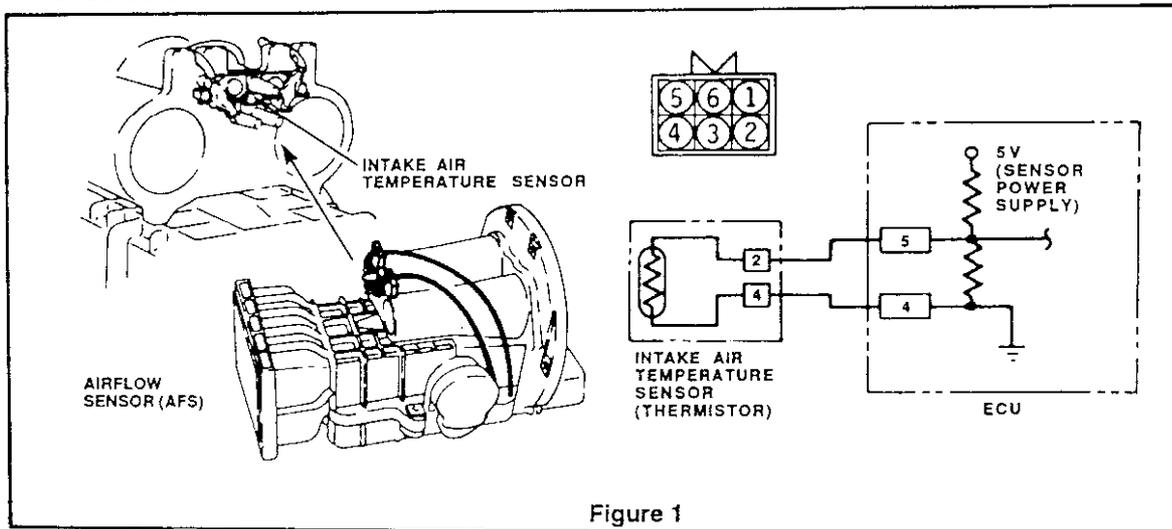

Figure 1
The barometric pressure sensor (BARO sensor) is an integral part of the Karman vortex sound-frequency airflow sensor, figure 1. It is used on all 1987 and later fuel-injected vehicles except Cordia and Tredia turbo models, which use a boost sensor and a pressure exchange solenoid. The integral BARO sensor does not fail often. TBI systems through 1986 use a separate sensor. The BARO sensor is in the ECU On 1985-86 Galants.
1. Check ground circuit continuity. Unplug the sensor connector and check the wiring harness continuity from terminal 4 to ground with an ohmmeter, figure 1. Repair the circuit as needed.
2. With the connector unplugged, measure resistance between terminals 2 and 4, figure 1. Compare to the following table: